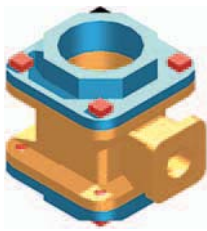

Fig. 17.9 Second example UCS – steps 12 and 13 + rendering
Second example – UCS (Fig. 17.9)
13. In the **UCS \*WORLD\*** view, move the parts into their correct position relative to each other. **Union** the two filleted rectangular extrusions and the main body. **Subtract** the cylinder from the whole (Fig. 17.9).